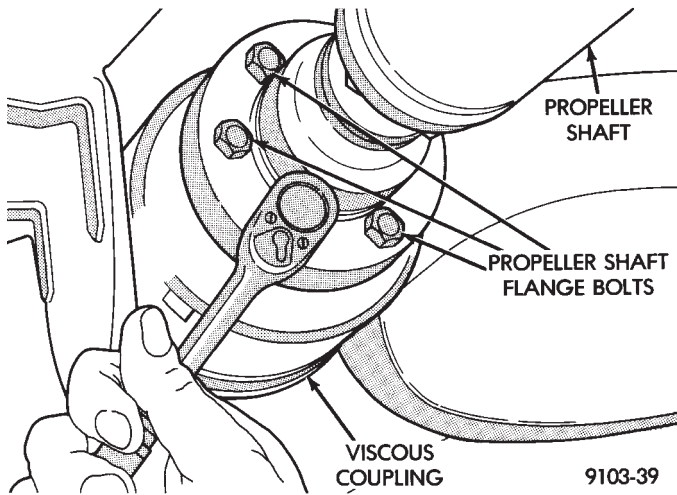

Fig. 3 Remove Mounting Bolts
- (4) Remove mounting bolts from the rear side of propeller shaft (Fig. 3).